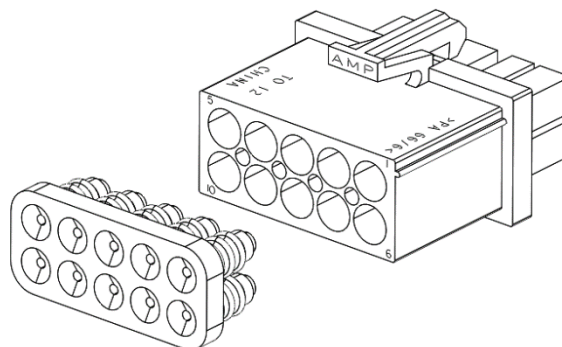

Figure 5
2. Insert the gang seal into the contact cavities at the back end (wire side) of the cap and plug housings as shown in Figure 5.